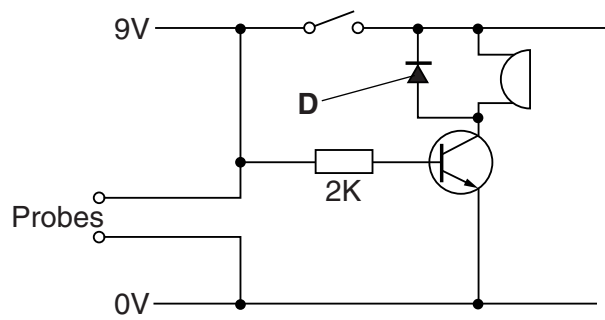

Fig. 5
- 3 Fig. 5 shows the circuit diagram for a temperature alarm used to warn that the temperature for the bath water is too hot.